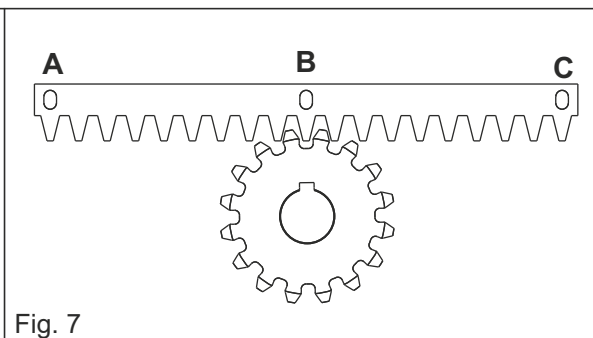
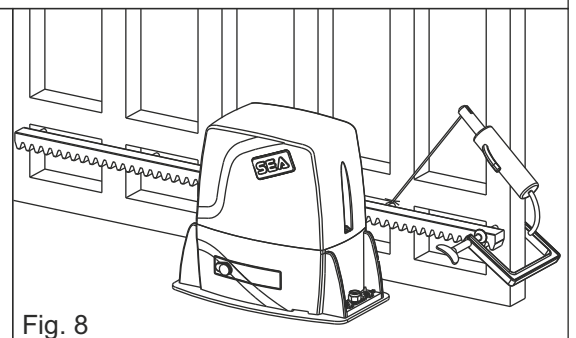

Fig. 7
Fig. 8
5.3. Lean the gear rack element on the toothed pinion of the operator in parallel to the ground slideway of the gate, as shown in Fig. 7 and electrically weld the central pawl **B** to the gate structure (Fig. 8). Manually move the gate until pawl **C** is placed in front of the pinion and fix it through electric welding. Repeat the same procedure for pawl **A** after having placed it in front of the pinion;